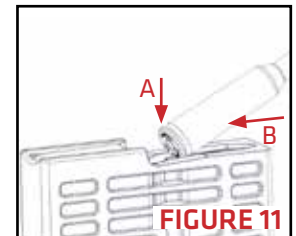

FIGURE 11
3. Load cartridges into the magazine by placing the base of the cartridge on the front half of the magazine, pushing downward and sliding the cartridge to the rear of the magazine (**FIGURE 11**).